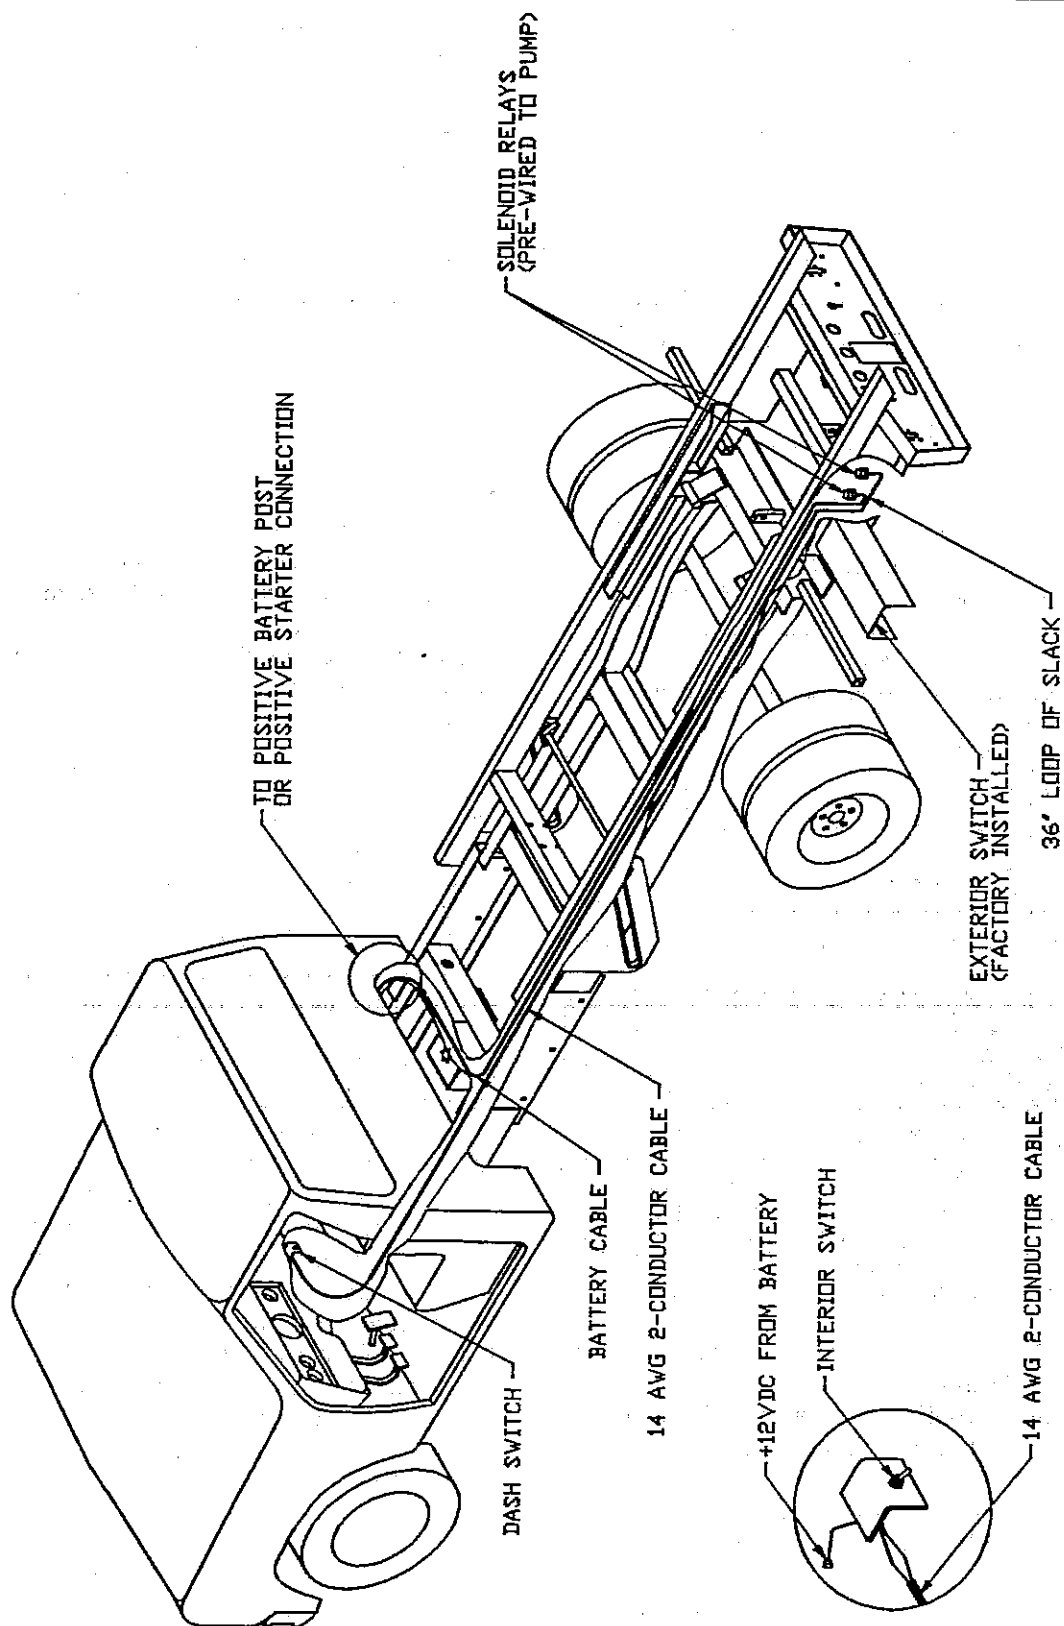

Fig. A-1 Remote Tilt Electrical Installation
**A-1.4** If your kit was ordered with the optional ELECTRICAL REMOTE TILT, locate the heavy electrical battery cable coiled at the rear of the kit sub-frame. One end of the cable will be connected to one of the solenoid relays inside the left-rear member of the kit sub-frame. (See Fig. A-1)
**NOTE:** The Loadoll wheel lift is designed to be used at various angles from the truck; however, the wheel lift must be aligned with the wheels of the towed vehicle so that when the wheel lift is extended, the wheel lift crossbar will be centered between the tires of the towed vehicle. (See Fig. A-1)